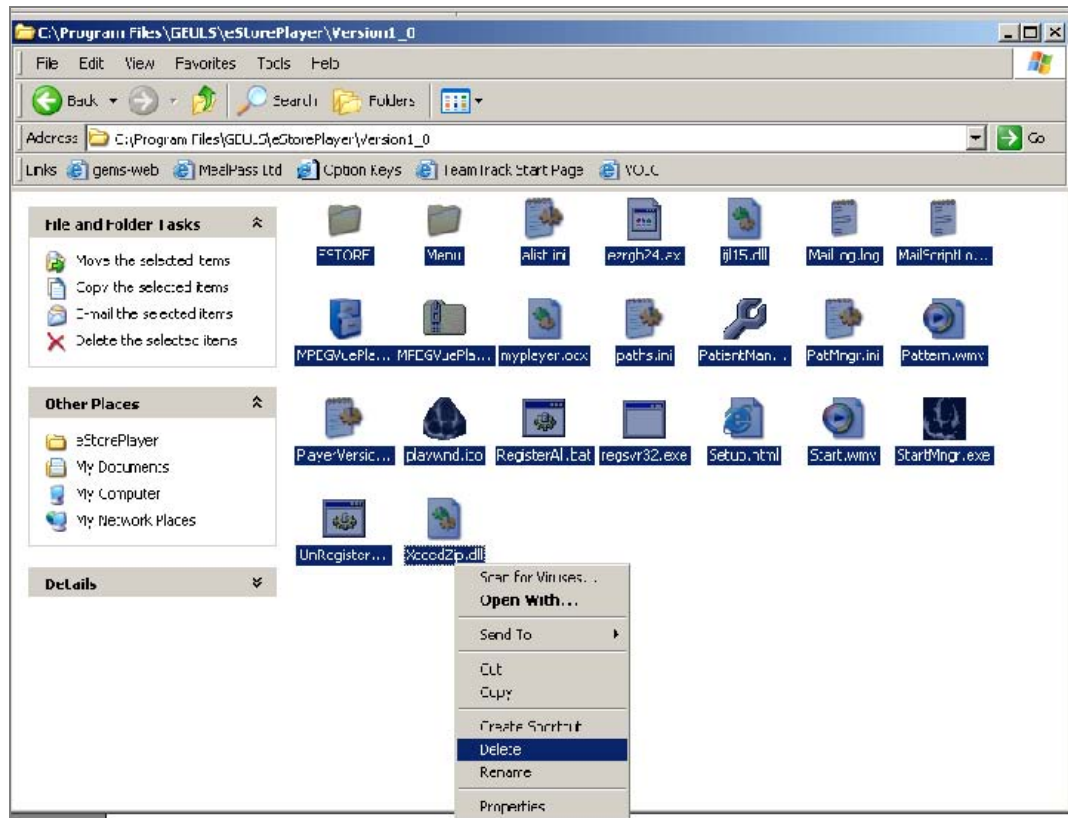

Figure 3-115 Deleting All Files
- 5.) From the **C:\Program Files\GEULS\StorePlayer\Version1_0** folder, delete all files, as shown in Figure 3-115 on page 3-125 .